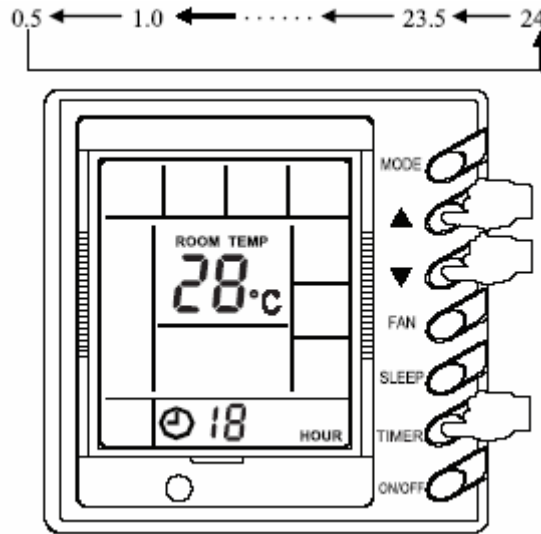

Fig. 18
NB: Fig.17 shows the state of the unit when turned on. When the communication is normal, in both cases (on and off) the ambient temperature will be shown. Here there is no “reticular line”, Fig 18 shows the shut-down unit.
1.2 Timer adjustment (Fig.18)
NB: Fig. 18 shows the relevant area.